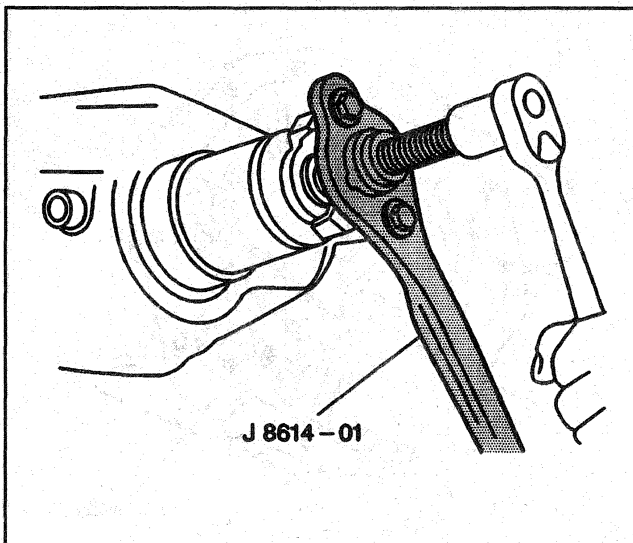

Figure 17—Installing the Pinion Flange
7. The pinion washer and nut while holding the pinion flange with J 8614-01 (Figure 17).